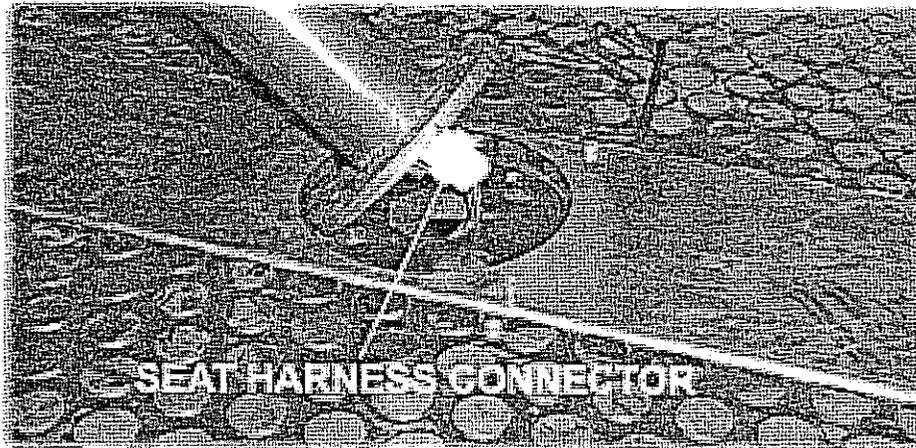

Figure 14
12. Attach the seat post, plugging in the harness that runs up inside the post. (See figures 14 and 15).